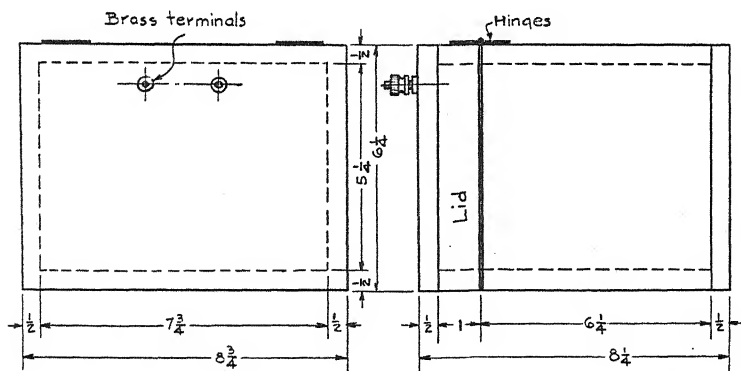

FIG. 124. Battery box for six No. 6 dry cells.
**The Battery Unit.** The unit in Figure 124 is not absolutely essential to the complete circuit. However, a well-built battery box, made to accommodate six No. 6 dry cells (each  $2\frac{1}{2}$  in. in diameter by  $6\frac{1}{2}$  in. over all) will certainly add to the general appearance of the job, and will make the whole outfit more readily portable.